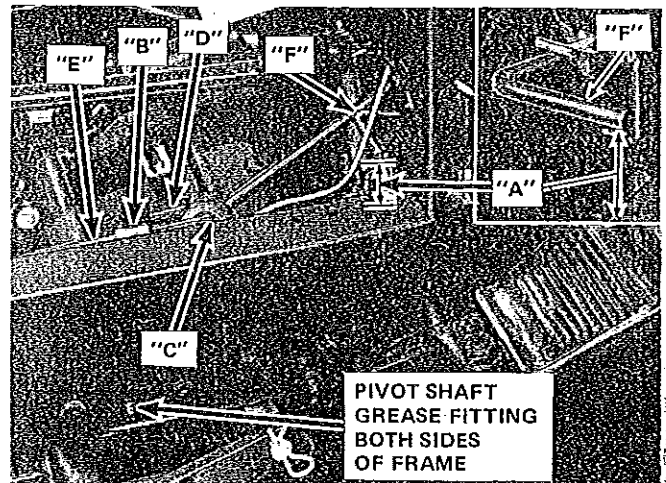
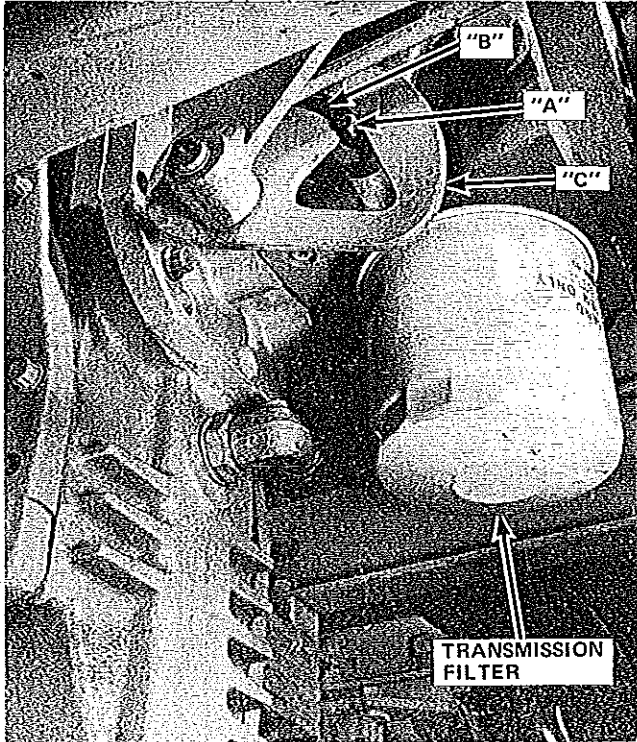

Figure 43
Figure 44
2. Depress the foot brake. When rod "F" Figure 43 is 1 to 1-1/4 inches from the top of frame rail at "A" Figure 43, pin "A" Figure 44 should just be in slot "B" of lever "C" as shown in Figure 44. With the above adjustments the interlock switch should activate, closing the circuit.
3. To adjust loosen hex nut "B" Figure 43. Remove pin "C" and turn clevis "D" either clockwise or counterclockwise on rod "E" to obtain proper adjustment.
4. When adjustment is achieved replace pin "C" and lock with cotter pin. Lock clevis "D" with hex nut "B" Figure 43.